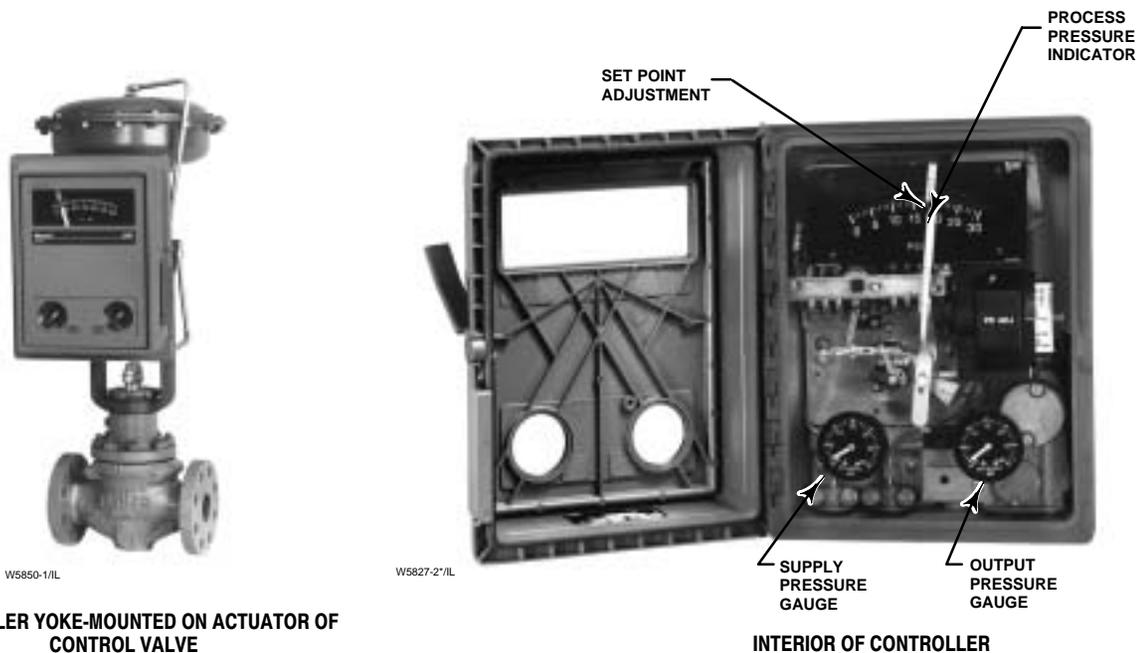

Figure 1. 4194 Series Differential Pressure Controllers
The 4194 Series (low pressure) differential pressure indicating controllers (figure 1) show process differential pressure and set point on an easy-to-read process scale. The controllers, part of the versatile Wizard® family of pneumatic instrumentation, sense two different pressures and compare the difference between these pressures with an operator-adjusted set point. A pneumatic signal is then delivered to a control element to change the process differential pressure toward the
- **Mounting Versatility**—The controller can mount directly on the actuator (as shown in figure 1) or it can mount on a pipestand, on a wall, or in a panel.